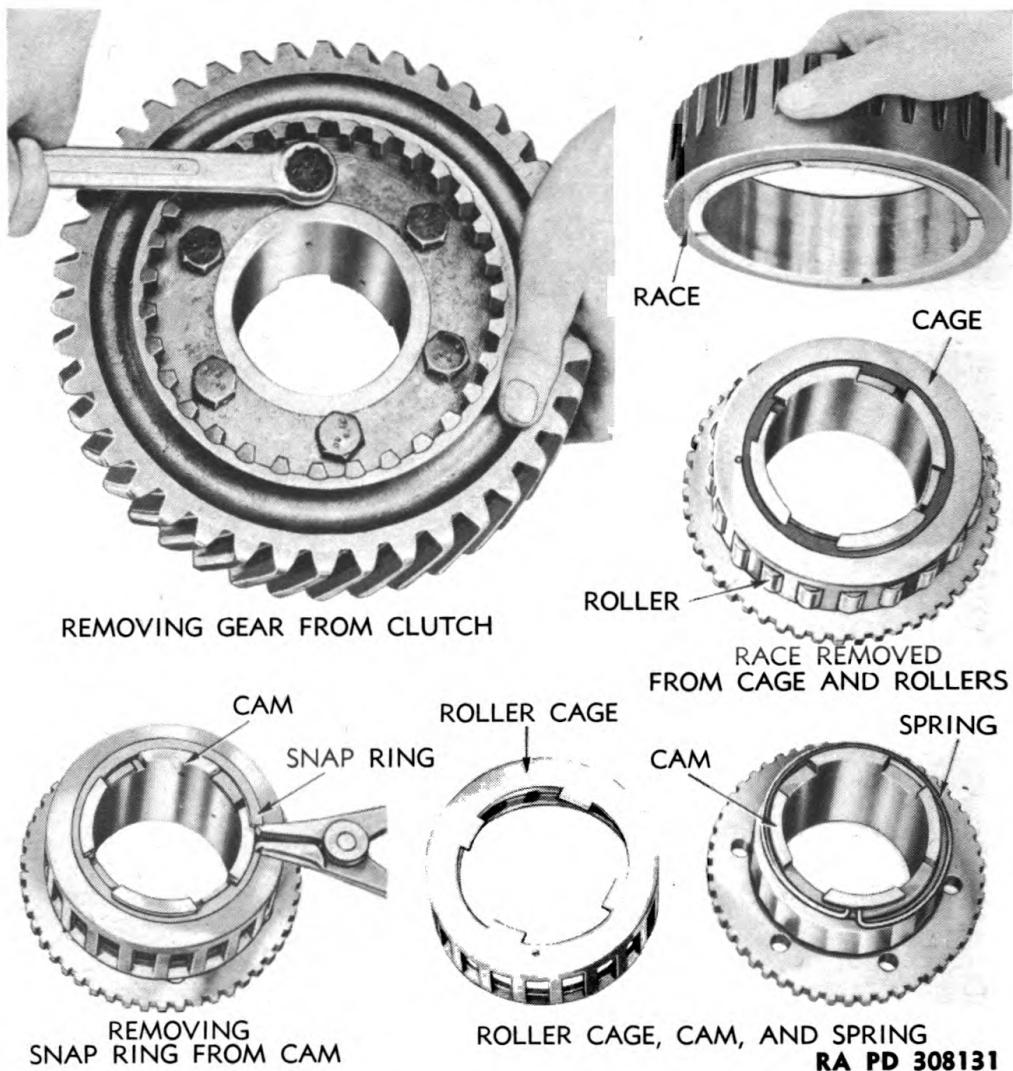

Figure 31 – Disassembly of Overrunning Clutch Assembly
e. Disassemble Overrunning Clutch Assembly (fig. 31). Lay assembly on bench with gear up. Cut lock wire, remove the six attaching cap screws and left off gear. Turn assembly over and lift